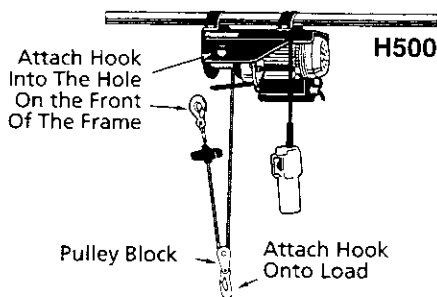

Figure 8
1. Insert cable hook into the hole on the front of the frame and tighten securely (See Figure 8).